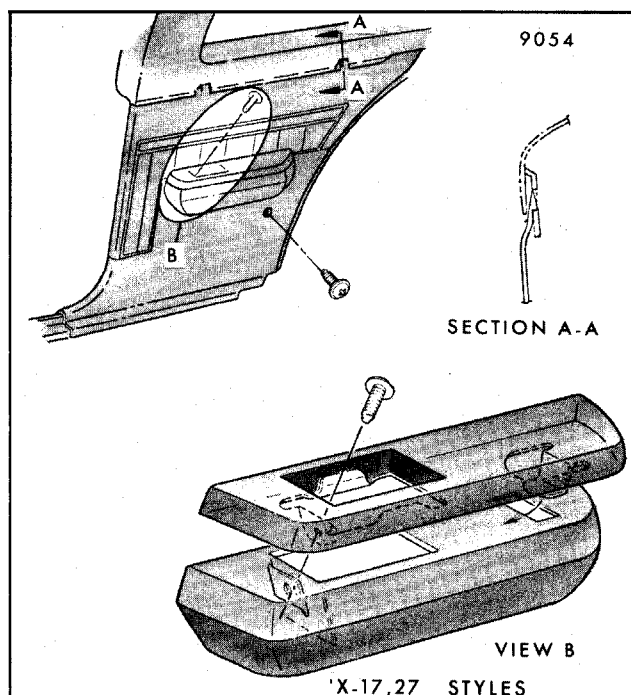

Fig. 6-5-Quarter Trim and Armrest Attachment - "X-17,27" Styles
- c. On "H-27" styles, remove single attaching screw to armrest to gain access to two attaching screws. To remove trim on "X" styles with standard trim, remove single attaching screw at lower rear portion of trim (Fig. 6-5).